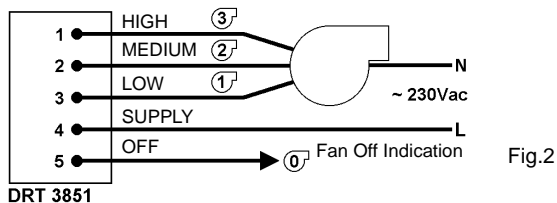
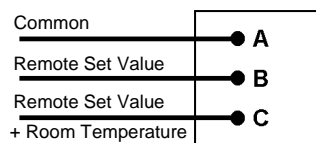

Fig.2
Fig.3
5. Connect mains voltage wiring to switch terminals in accordance with the appropriate scheme diagram (See Fig.2 or Fig.3). This mains wiring must be suitably sized for the load and comply with local regulations. When 1 CZU controls a group of fan coil units, use interface relays or contactors for fan circuits, as required.
- i. Connect sensor wires to non-polarised terminals A & C of sensor, when used as temperature sensor (See Fig.3). Connect to terminals A & B when used as remote setting unit. (See Fig.3).